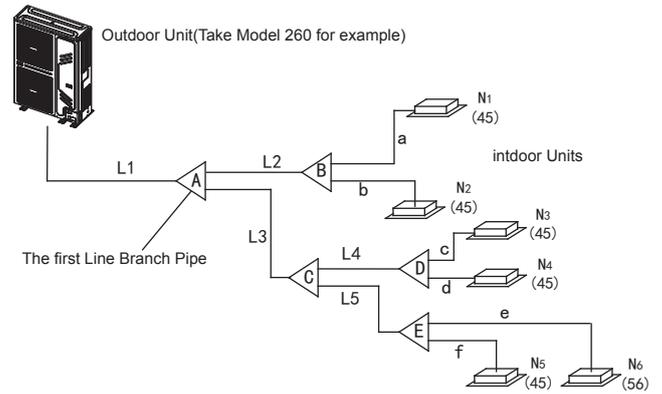

Fig. 4-5
- 2) Example 1: In the Fig.4-5,The downstream inner units of the L2,and its total capacity is $45 \times 2 = 90$, refers to the Table 4.4,the air/liquid side of L2 is: $\Phi 15.9/\Phi 9.5$.